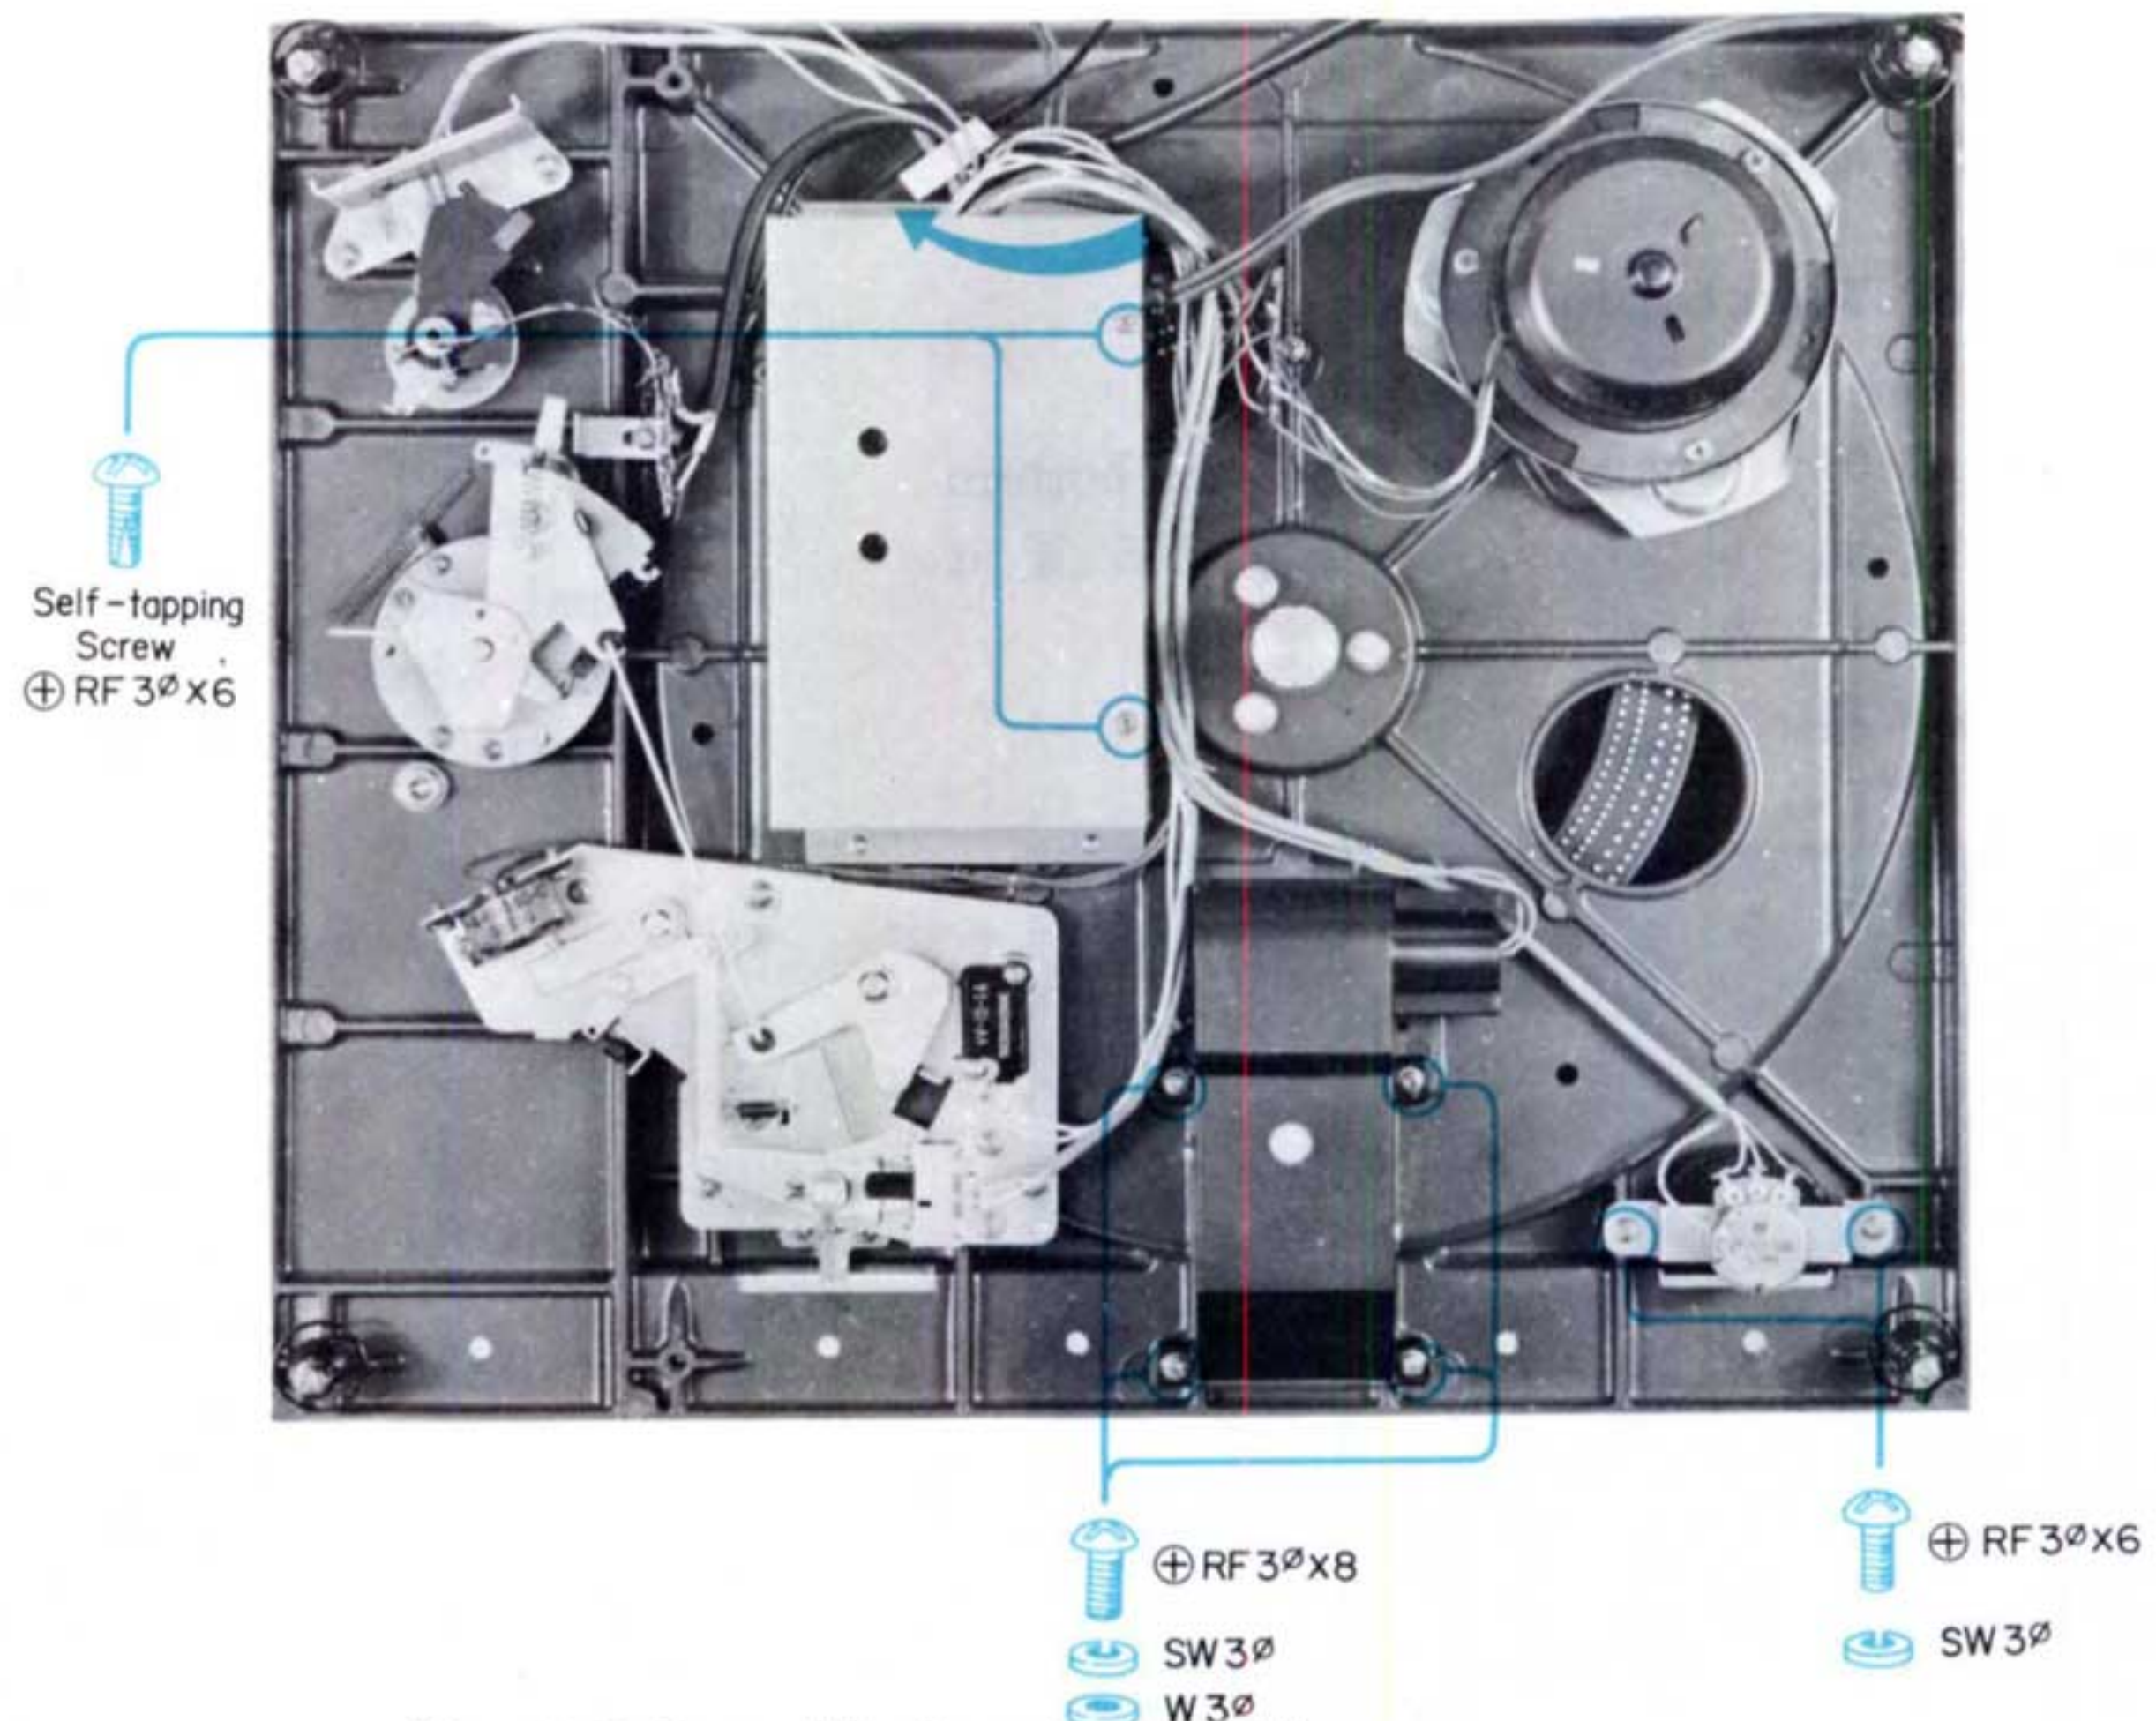

Fig. 2-9 Turntable Base Bottom View
2. Remove the two self tapping screws from the servo amp chassis as shown in Fig. 2-9.
3. Turn the chassis in the direction of the arrow in Fig. 2-9. Now the entire servo amp unit can be removed for service.
2. Remove the four screws (+RF 3 ϕ $\times$ 8) that secure the strobe unit to the turntable base. See Fig. 2-9.
2. Remove the two screws (+RF 3 ϕ $\times$ 6) from the bracket. Take off the bracket. See Fig. 2-9.